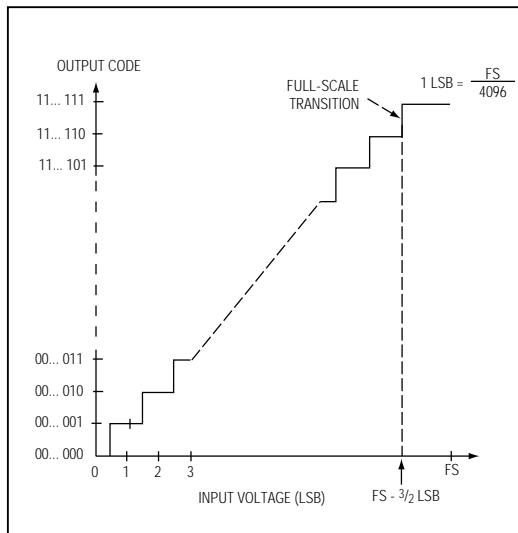

Figure 10. Unipolar Transfer Function
Output data coding for the MAX197 is binary in unipolar mode with  $1\text{LSB} = (\text{FS} / 4096)$  and two's-complement binary in bipolar mode with  $1\text{LSB} = ((2 \times |\text{FS}|) / 4096)$ . Code transitions occur halfway between successive-integer LSB values. Figures 10 and 11 show the input/output (I/O) transfer functions for unipolar and bipolar operations, respectively. For full-scale (FS) values, refer to Table 1.